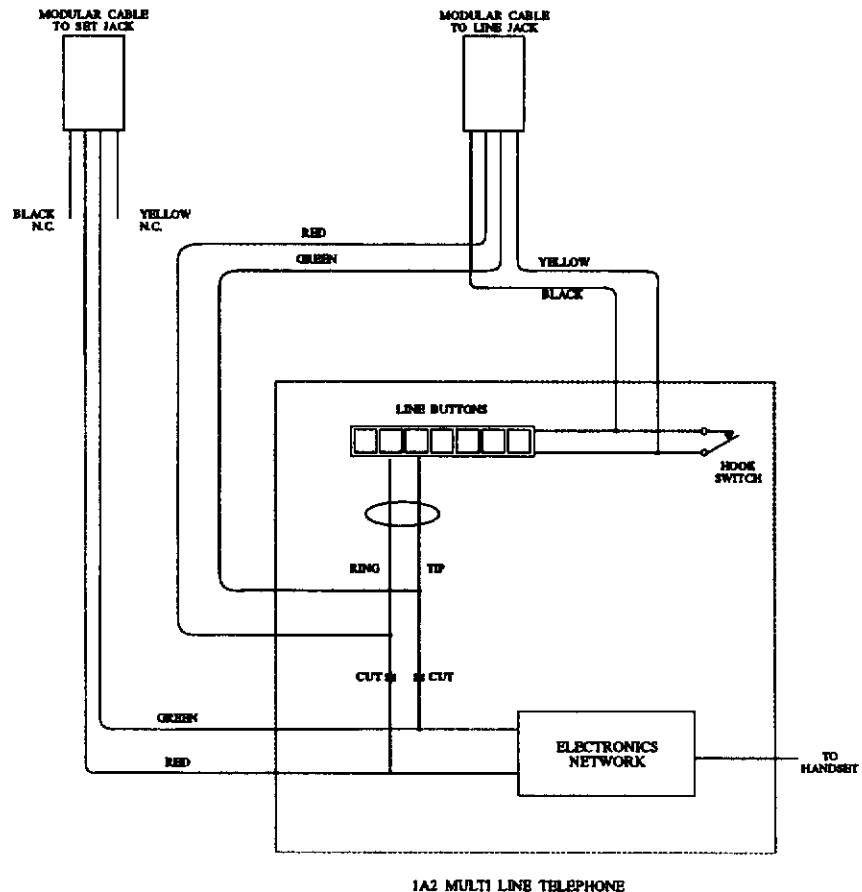
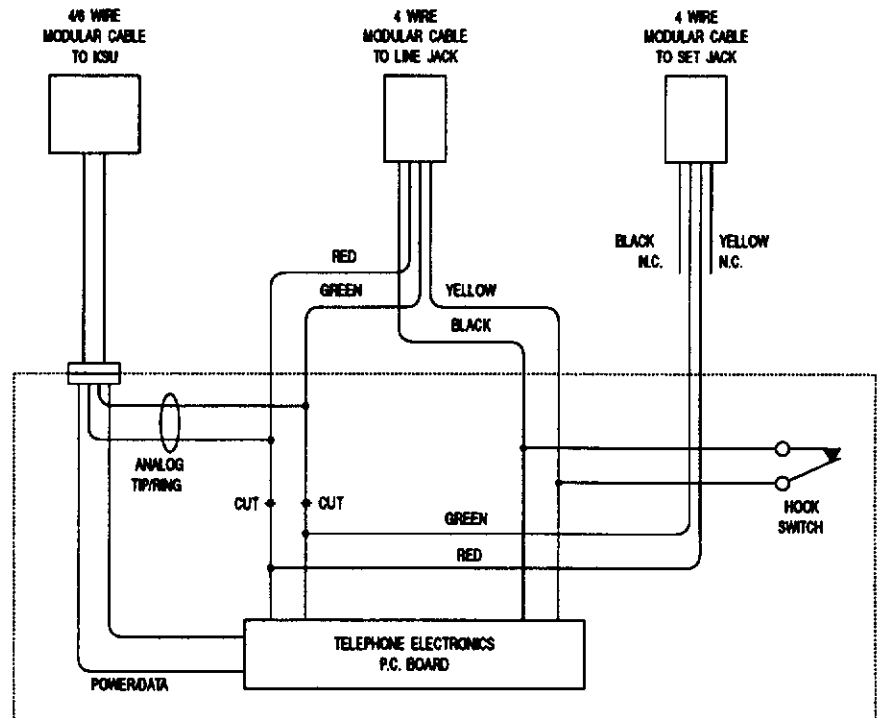

Figure 8
Figure 10
2. Sever this connection as shown in Figure 8.
5. The red and green conductors of a second modular cable should be connected to the severed Tip and Ring of the telephone electronics network as indicated in Figure 8. The yellow and black conductors of this cable should be left unconnected.
4. Sever this pair between the jack and the electronics of the telephone as indicated in Figure 10. Frequently DC is found on the audio pair which is used to power the telephone set. This can be verified if the set goes dead when this pair is severed. (If DC is present on the audio pair, it can be isolated using the hookup shown in Figure 8.) For more detailed information, refer to Gentner's publication "Interfacing to Electronic Telephone Systems". For a copy, contact Gentner at (801) 975-7200.